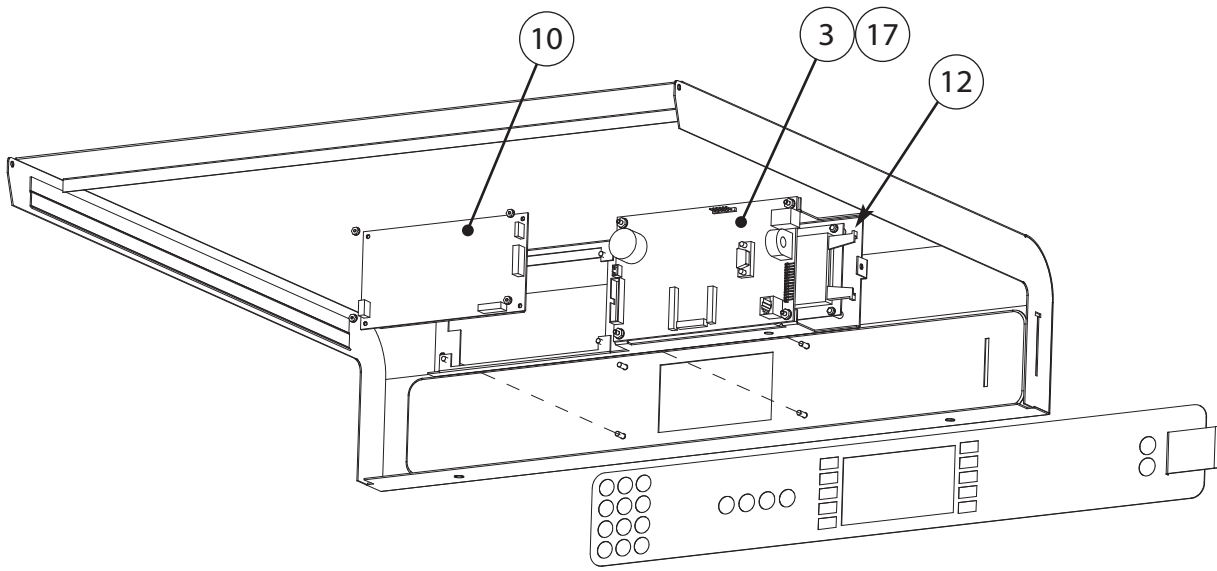

Figure A-6: Top Cover Detail
* NOTE: Additional keypad detail on Figure A-6, page A-8.